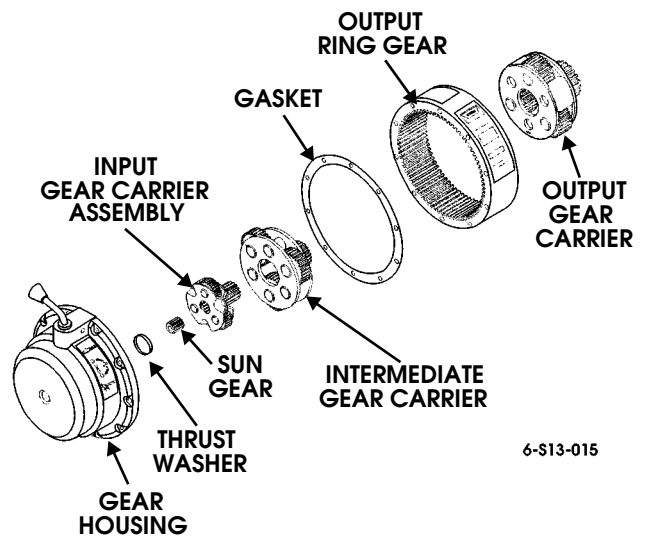

Figure 13-17: Gear Carriers
6. Apply aircraft grease to output gear carrier, intermediate gear carrier, and input gear carrier assembly (Figure 13-17).